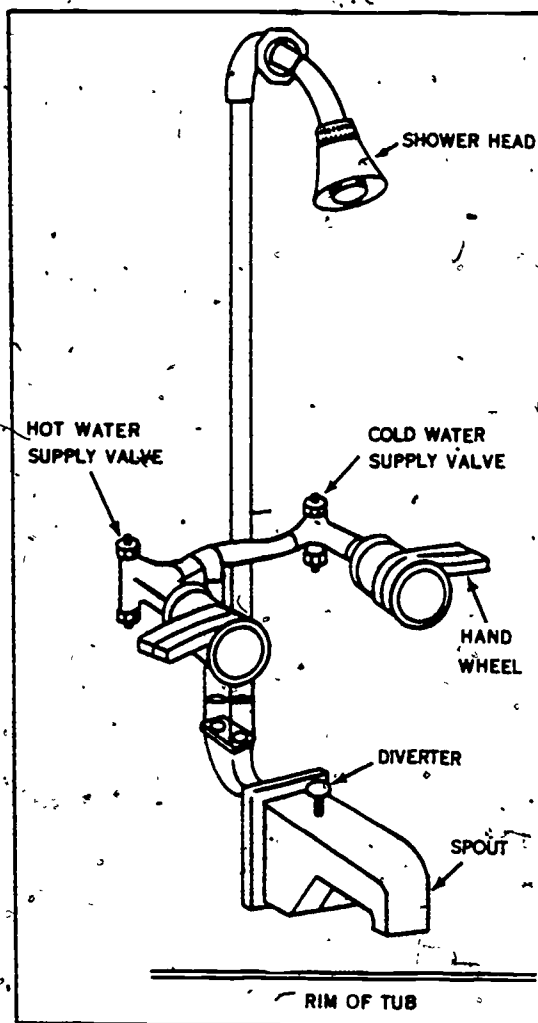

Figure 2-23. Bath tub and shower piping arrangement.
which extend through the finished wall have a chrome finish. A typical bathtub and shower unit is shown in figure 2-23. When you make this type of bathtub and shower installation, be sure to locate the bathtub spout from 2 to 4 inches above the rim of the tub. Spacing the spout above the rim of the tub prevents siphoning of the water from the tub in case the valve is left open and the water drops at the same time. This installation prevents cross connection between potable and nonpotable water.
a. Manual mixing valve. The manually controlled mixing valve actually consists of two hand-operated valves in one body with an outlet for both valves which feeds the shower head. The valves are turned by hand to control the temperature of the water. The use of manually controlled valves requires a piping arrangement similar to the one shown in figure 2-23. This water-tempering setup does not give protection against sudden changes of temperature due to slugs of